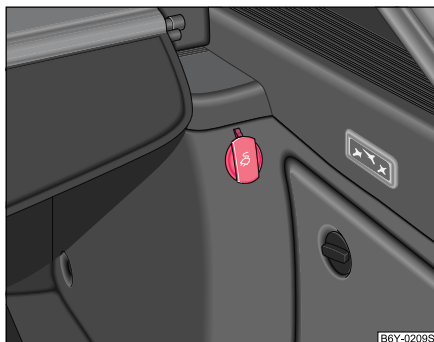

Fig. 68 Luggage compartment: Power socket
- Open the cover of the power socket ⇒ **fig. 68**.